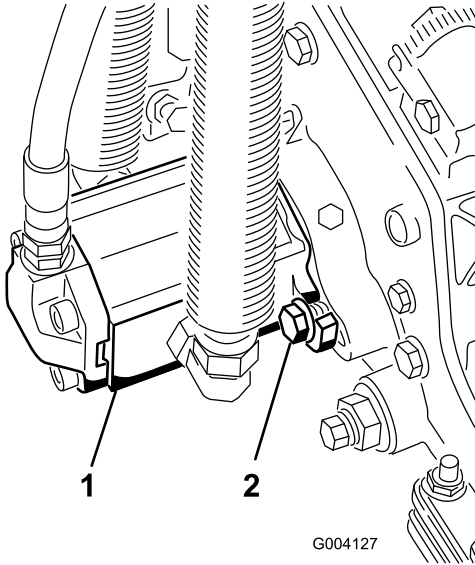

Figure 14
16. Install the motor by rotating it clockwise so that the motor flanges clear the bolts (Figure 14). Rotate the motor counterclockwise until the flanges encircle the bolts then tighten the bolts.